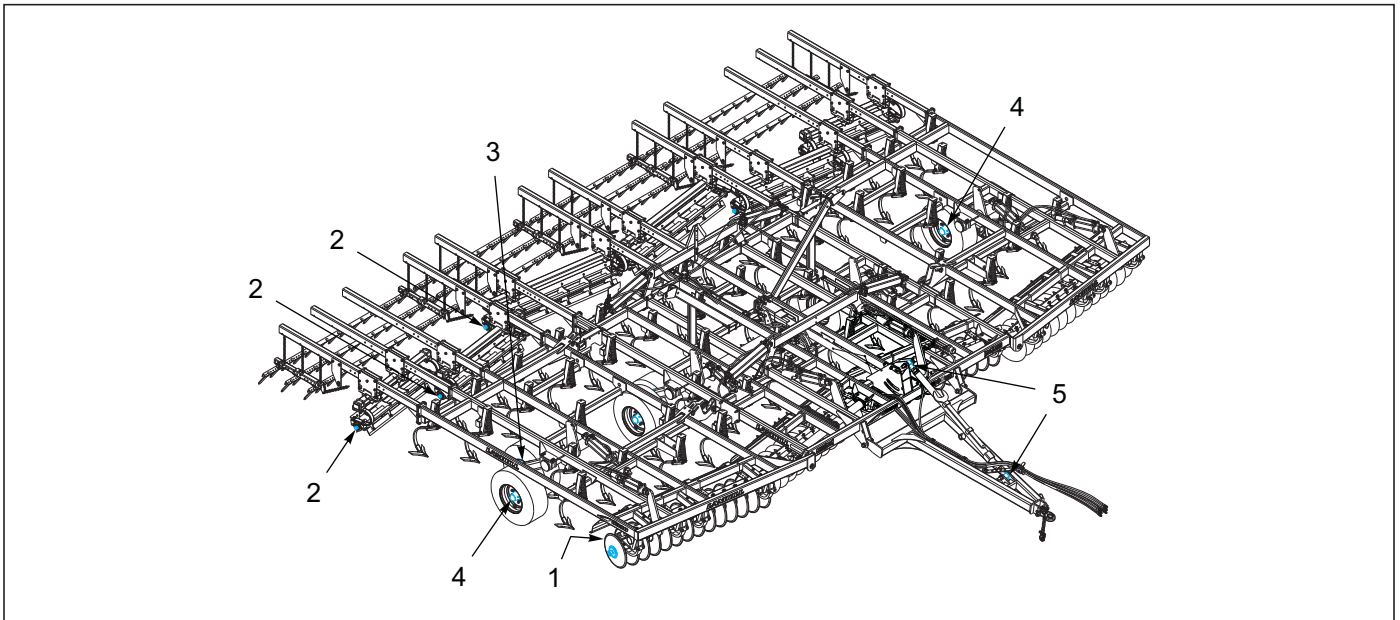

Figure 4-15: Lubrication Schedule
1. A proper maintenance schedule will insure a long operating life and peak performance. Performing the following lubrication will ensure maximum operating life of the Finisholl *See Table 4-1 and See Figure 4-15.*